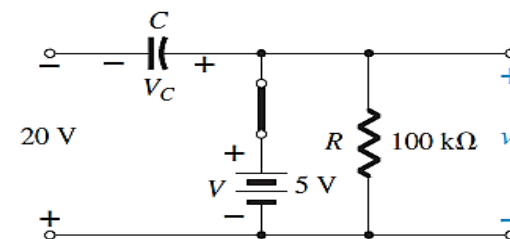

Fig. 1.2 : Determining V_o and V_C with the diode in the "on" state.
Step 1: For $t_1 \rightarrow t_2$ of the v_i since the diode is in its short-circuit state. The network appears as shown in Fig. 1.2 .